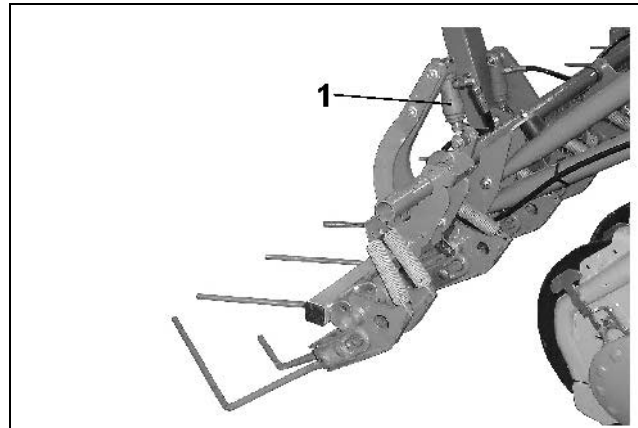
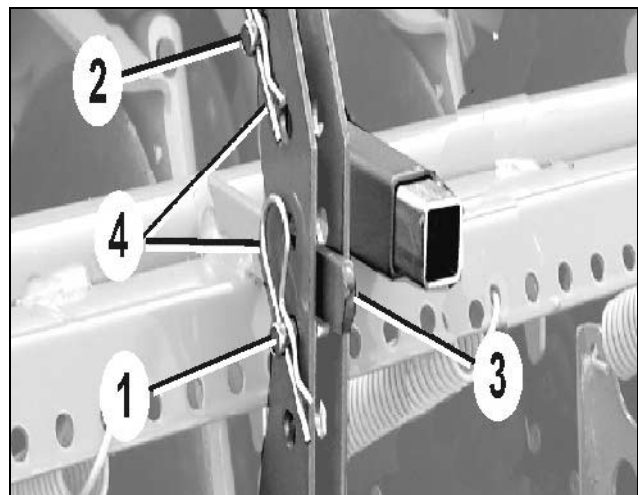

Fig. 87
Fig. 88
When changing from normal soil to heavy soil or vice versa, the coulter pressure is readjusted by a hydraulic ram (Fig. 87/1).
Two pins (Fig. 88/1 and 2) are placed as a stop for the lever (Fig. 88/3) in the setting segment. The lever, which is actuated by the hydraulic ram rests on the pin I (Fig. 87/1) when the hydraulic ram is without pressure and it stops on pin II (Fig. 88/2) when the hydraulic ram has been pressurised.
- Relieve the hydraulic ram (Fig. 87/1) from pressure.
- Insert pin II (Fig. 88/2) into a hole above the lever (Fig. 88/3) in the setting segment and secure by using a clip pin (Fig. 88/4).
- Pressurise hydraulic ram (Fig. 87/1).
Insert pin I (Fig. 88/1) into a hole in the setting segment under the lever (Fig. 88/3) and secure by using a clip pin (Fig. 88/4).